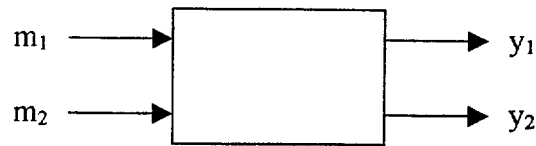

Figure 3. Multivariable system.
6. The process in Figure 3 is to be controlled using two feedback control loops.
The transfer function for a process similar to the one given in Figure 3 is given by: